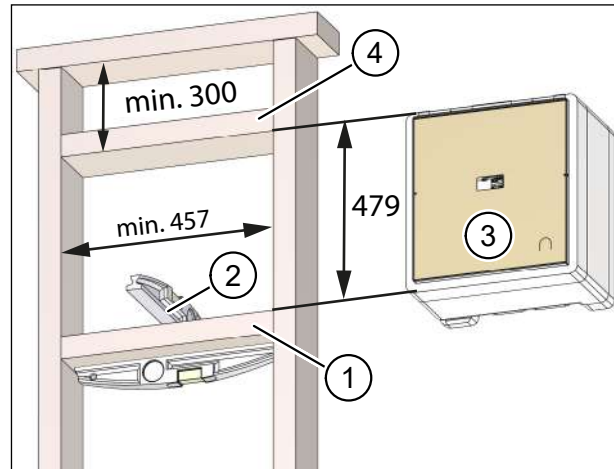

Fig. 44: Creating a mount for the installation kit in a frame construction – dimensions in millimetres
- The lower batten (item 1 in Fig. 44) acts as a support.
- ▶ Use a spirit level (item 2 in Fig. 44) to check that the lower batten is exactly horizontal as this is the only way to ensure that any condensation will be carried outside by the 2° pipe fall in the installation kit (item 3 in Fig. 44).
- The upper batten (item 4 in Fig. 44) is used to fix the installation kit.
- The installation kit is fixed in the optimum position with a vertical distance of 479 mm between the lower and upper batten (see Fig. 44). You can insert the installation kit temporarily while fixing the battens to ensure that the kit will fit perfectly.